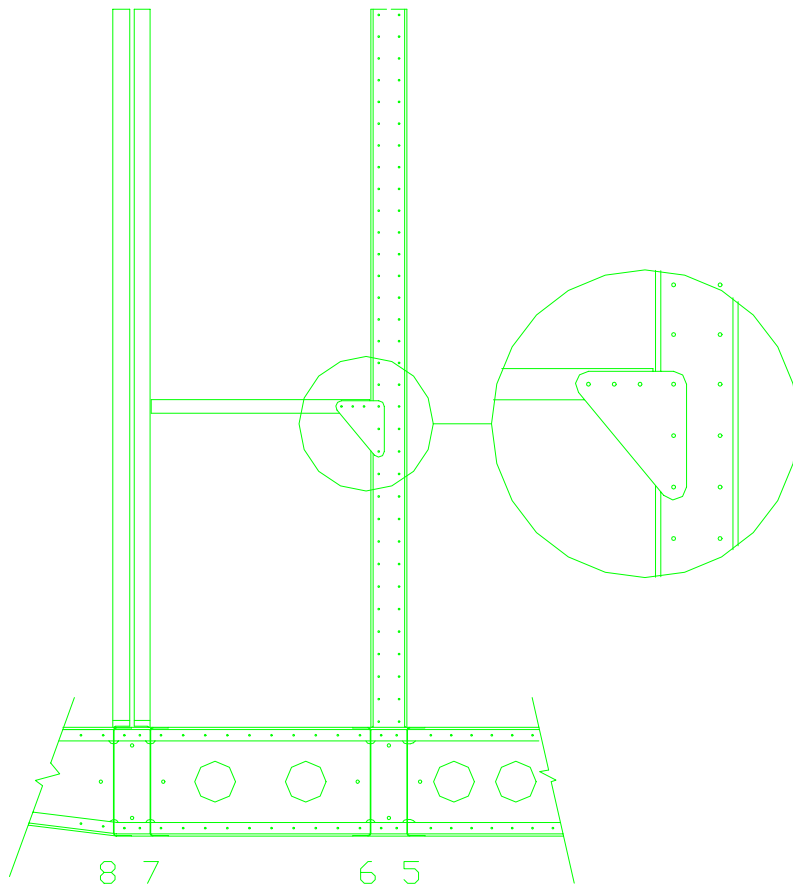

FIGURE 11
46) From RAWST-10 make a gusset to tie the channel flange to the strap. Drill the remaining holes with a nominal spacing of 1 ¼". Figure 11.